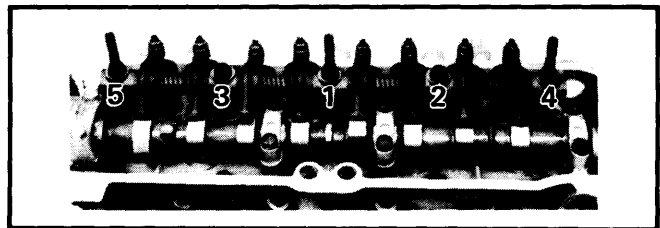

Fig. 1 Rocker Arm Tightening Sequence
4) Loosen rocker arm support bolts in 3 or 4 steps and in sequence shown in Fig. 1. Remove rocker arm assembly and camshaft timing sprocket. Remove camshaft bearing caps in same general sequence as rocker arm supports and arrange in order.
Removal — 1) Remove air cleaner and rocker arm cover. Remove front cover assembly and timing belt. See TIMING BELT. Loosen rocker arm support bolts in 3 to 4 steps and in sequence shown in Fig. 1. Remove rocker arm assembly.
Removal — 1) Remove air cleaner and rocker arm cover. Loosen rocker arm support bolts in 3 to 4 step and in sequence shown in Fig. 1. Remove rocker arm assembly.
Installation — To install, reverse removal procedure. Tighten rocker arm support bolts in 3 to 4 steps and in sequence shown in Fig. 1.